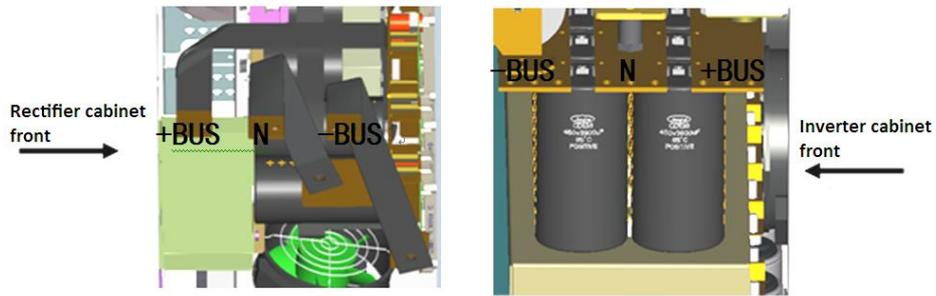

Fig. 3-18: Bus soft copper bar of the rectifier cabinet Fig. 3-19: Bus copper bar of the inverter cabinet
3. Connect the bus. Connect the bus soft copper bar of the rectifier cabinet (as shown in Fig. 3-18) correspondingly to the bus copper bar of the inverter cabinet (as shown in Fig. 3-19).